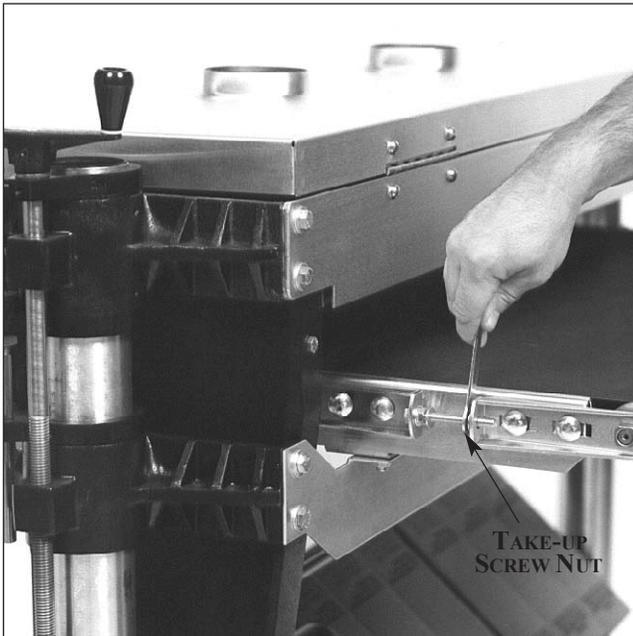

Fig. 10. Adjusting conveyor belt tracking.
**Belt Tension.** To adjust the tension of the conveyor belt, first adjust the take-up screw nut (see Fig. 10) on both sides of the conveyor to obtain approximately equal tension on both sides of the belt when taut. Insufficient belt tension will cause slippage of conveyor belt on the drive roller during sanding operation. The conveyor belt is too loose if it can be stopped by hand pressure applied directly to the top of the conveyor belt. Excessive belt tension can
**Belt Tracking.** Belt tracking adjustments are made while the conveyor belt is running. After the proper belt tension is obtained (see above), turn the conveyor unit on and set it at the fastest speed setting. Watch for a tendency of the conveyor belt to drift to one side of the conveyor. To adjust the belt tracking, tighten the take-up screw nut (see Fig. 10) on the side the belt is drifting toward, and loosen the take-up screw nut on the opposite side. Adjusting the take-up screw nuts on either side of the conveyor allows belt tracking adjustments to be made without affecting belt tension. **NOTE:** Adjust the take-up screw nuts only 1/4 turn at a time. Then allow time for the belt to react to the adjustments before proceeding further. Try to avoid over-adjustments. Make sure wrench is below surface when sanding.